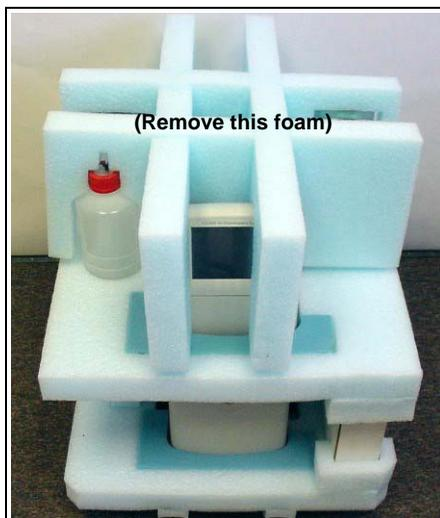

Figure B-1. ICS-1500 After Removing Shipping Box and First Layer of Foam
1. After removing the ICS-1500 from the shipping box and removing the top layer of foam, remove the next layer of foam (see Figure B-1).